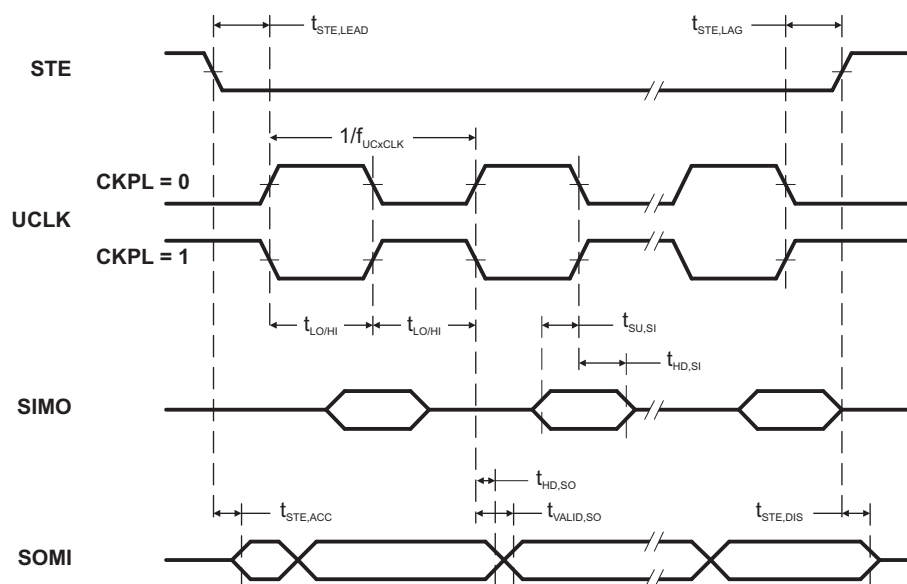

Figure 5-13. SPI Slave Mode, CKPH = 0
(see Figure 5-13 and Figure 5-14)
(2) Specifies the time to drive the next valid data to the SOMI output after the output changing UCLK clock edge. See the timing diagrams in Figure 5-13 and Figure 5-14.
(3) Specifies how long data on the SOMI output is valid after the output changing UCLK clock edge. See the timing diagrams in Figure 5-13 and Figure 5-14.